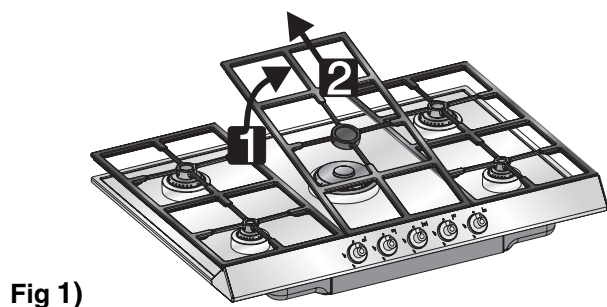

Fig 1)
- Remove the pan stands (Fig.1) by lifting them at the back (1) and extracting them (2);